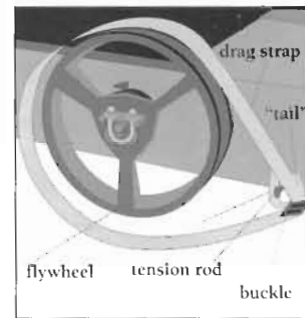

Figure 1
2. Slip the drag strap over the flywheel (Figure 1).